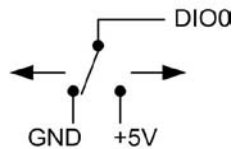

Figure 7. Schematic showing switch detection by digital channel DIO0
You can use the digital I/O terminals to detect the state of any TTL-level input. Refer to the schematic in Figure 7. If you set the switch to the +5 V input, DIO0 reads *TRUE* (1). If you move the switch to GND, DIO0 reads *FALSE* (0).